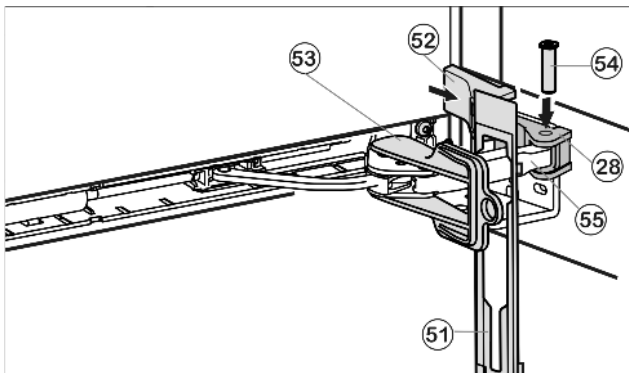

Fig. 22
- ▶ Hook panel Fig. 22 (51) into the damper bracket such that the detent hooks are pointing forwards and the front side is facing the appliance.
- ▶ Pull damper bracket Fig. 22 (55) towards bearing part Fig. 22 (28) and insert bolt Fig. 22 (54) from above such that the square is resting in the recess.
- ▶ Place cover Fig. 22 (52) on top and snap into place.
- ▶ Remove locking device Fig. 22 (53) by twisting it.
- ▶ Snap panel Fig. 22 (51) into place on the door.